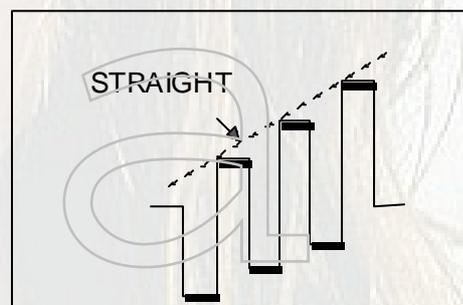

Fig.4-3
3. Use the [VOLUME +/-] key of the jig remote control and adjust so that the top edges of waveform are in a straight line. (Fig. 4-3)